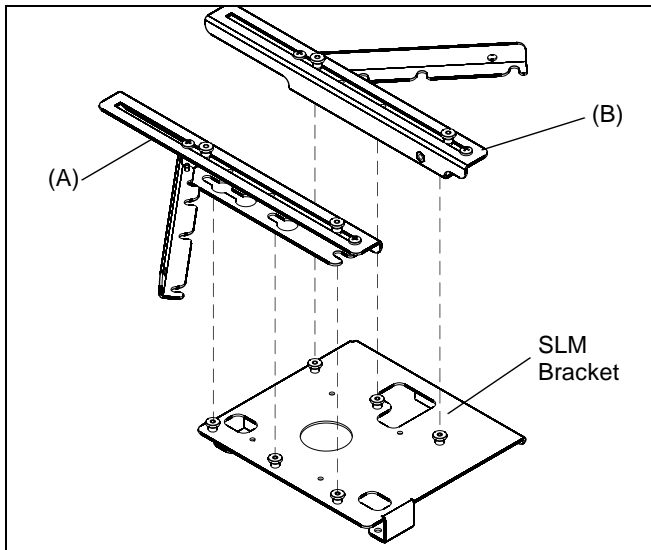

Figure 2
2. Slide LSB brackets so that thumbnuts on SLM bracket rest in the narrow end of key slots. (See Figure 2)